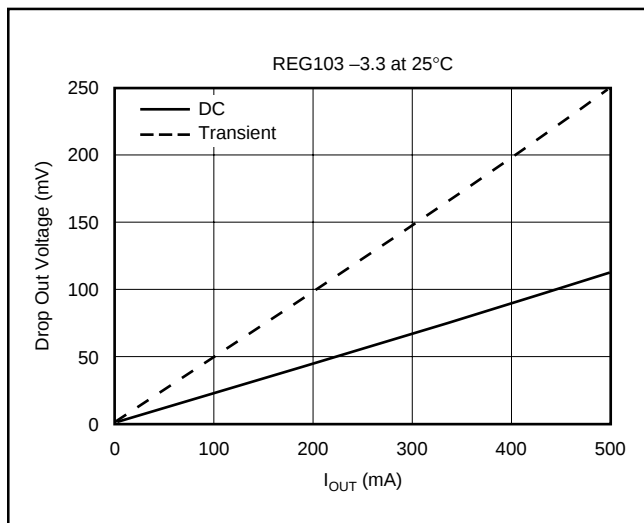

FIGURE 8. Transient and DC Dropout.
The REG104 uses an N-channel DMOS as the “pass” element. When the input voltage is within a few hundred millivolts of the output voltage, the DMOS device behaves like a resistor. Therefore, for low values of V_{IN} to V_{OUT} , the regulator’s input-to-output resistance is the $R_{DS(ON)}$ of the DMOS pass element (typically 230mΩ). For static (DC) loads, the REG104 will typically maintain regulation down to V_{IN} to V_{OUT} voltage drop of 230mV at full rated output current. In Figure 8, the bottom line (DC dropout) shows the minimum V_{IN} to V_{OUT} voltage drop required to prevent dropout under DC load conditions.
For large step changes in load current, the REG104 requires a larger voltage drop across it to avoid degraded transient response. The boundary of this “transient dropout” region is shown as the top line in Figure 8. Values of V_{IN} to V_{OUT} voltage drop above this line insure normal transient response.